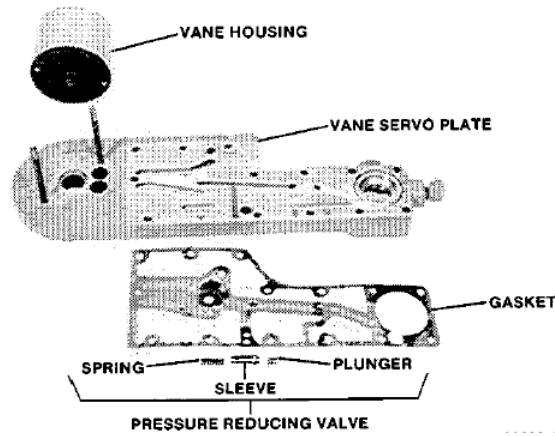

Figure 5-15. Side Plate
15. Remove side plate and gasket, along with pressure-reducing valve sleeve, plunger, and spring from the column (Figure 5-15).